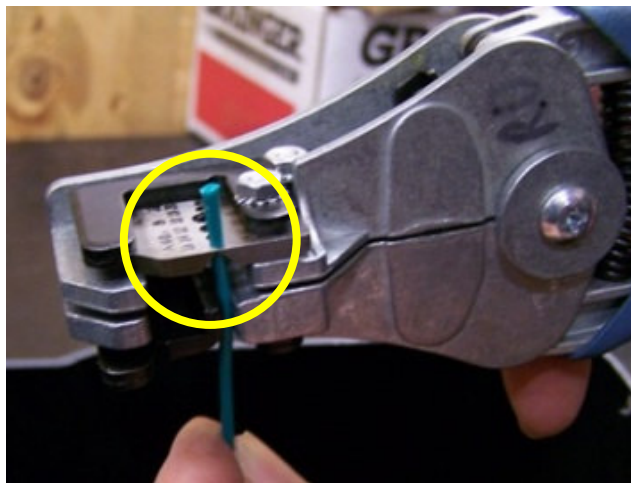

Figure 18
Step 16: Strip off the green wire insulation at about 8 mm (Figure 18)